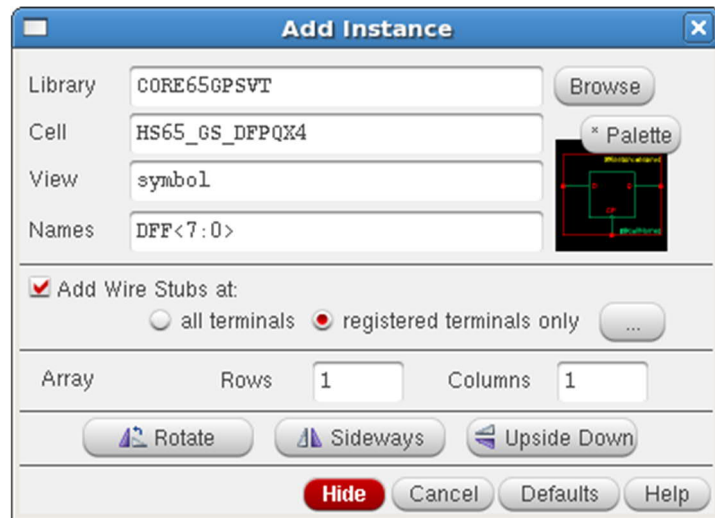

Figure 9. Adding an array of components.
- d. To synchronize the digitally corrected output, a register array should be used after the **FullAdder**. Use an array of the standard cell **HS65_GS_DFPQX4** from **CORE65GPSVT**, as shown in Figure 9. Make sure that you are using the correct clock in the register array.